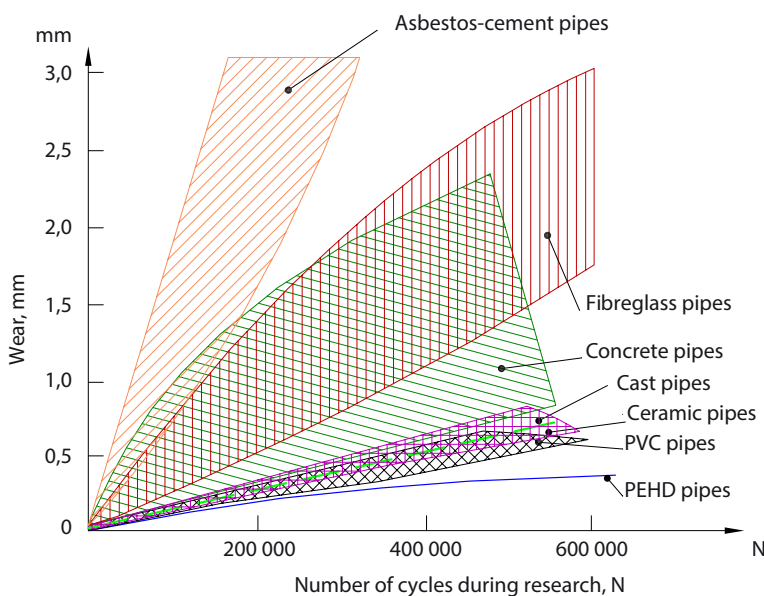

Figure 1
- High abrasion resistance, see Figure 1;